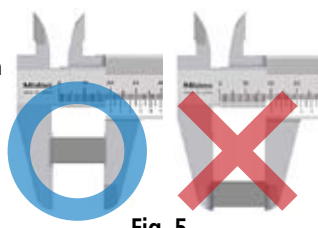

Fig. 5
2. Make sure to apply constant force during measurement, and measure an object as close as possible to the root of the jaws. (**Fig. 5**)